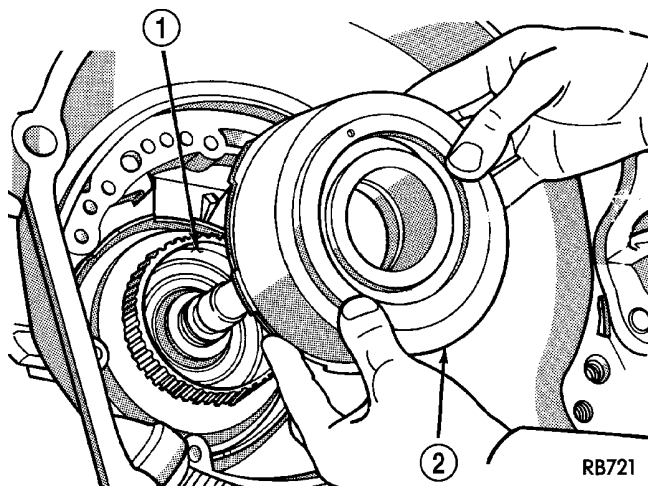

Fig. 31 Front Clutch Assembly
(31) Remove front clutch assembly (Fig. 31).